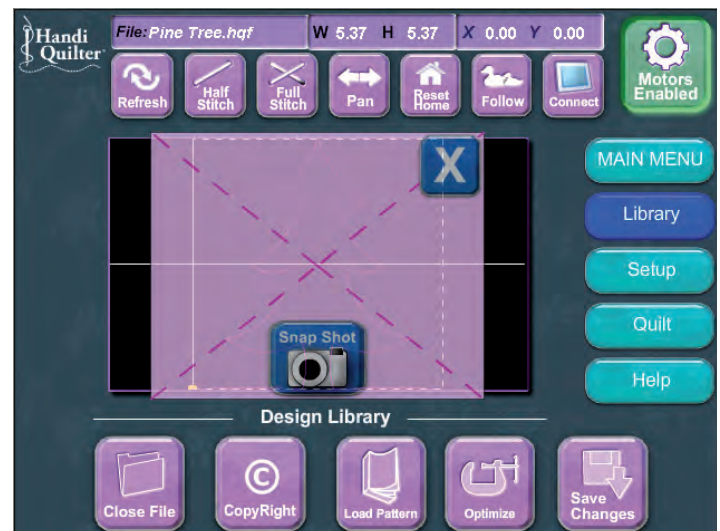

Figure 55
4. The pattern will load with a pink translucent box in front of the pattern (Figure 55).